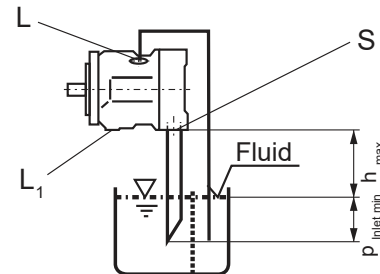

Fig. 4
- b) If the minimum fluid level is equal to or below the top of the pump pipe ports "L", "L1" and possibly "S" according to Fig. 4. Conditions according to 1.2.1.
- a) For mounting above tank see Fig. 4. Conditions according to 1.2.1.